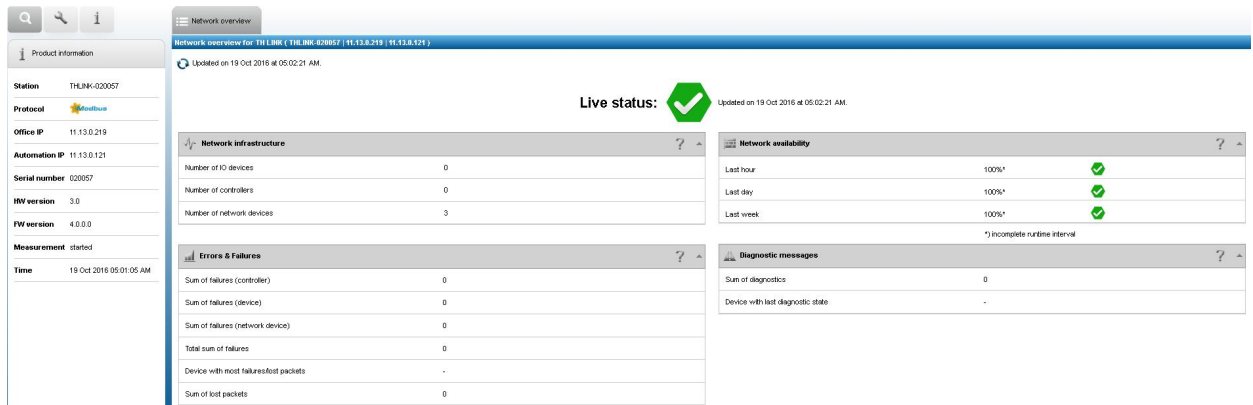

Figure 5: TH LINK network overview tab
9. In menu **Network configuration** switch the configuration method for office networks and/or automation networks from **DHCP** to **Manual** (see figure 5).